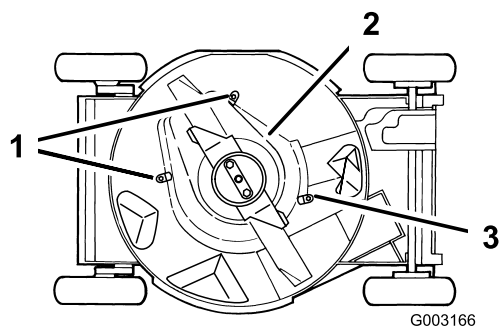

Figure 38
6. Loosen the tabs that secure the blade brake clutch shield to the deck by loosening the nuts or the bolts on the tabs (Figure 38). Rotate the tabs 180° to move them out of the way.